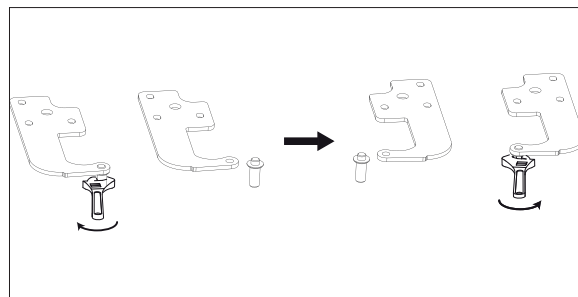

Fig. 12
- ▶ Use a 6 mm wrench to remove the upper hinge pin (Fig. 12) and screw the pin back into the hole on the opposite side.